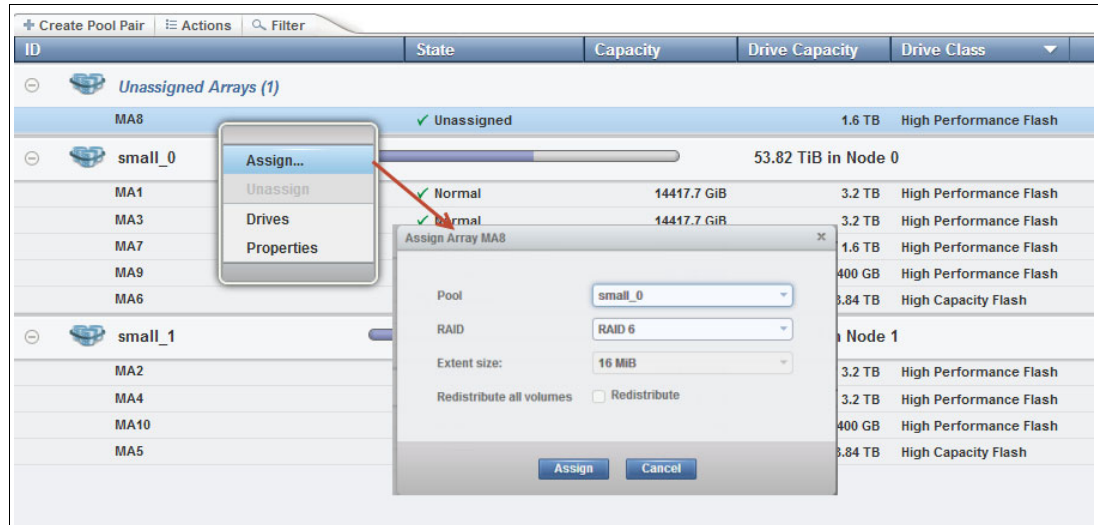

Figure 11-45 Manually assign an array to an existing pool
- Select an array and click **Assign** or **Reassign**, as shown in Figure 11-45 on page 315. This action opens the Assign Array window.